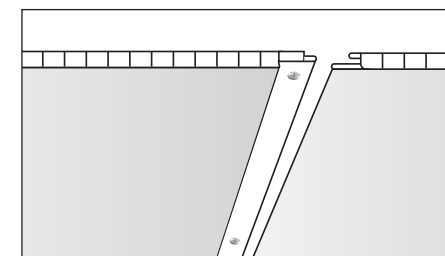

Fig.5
- Repeat the process for each panel, pushing them firmly together using the Tongue and Groove profile for a neat finish. (Fig.5)